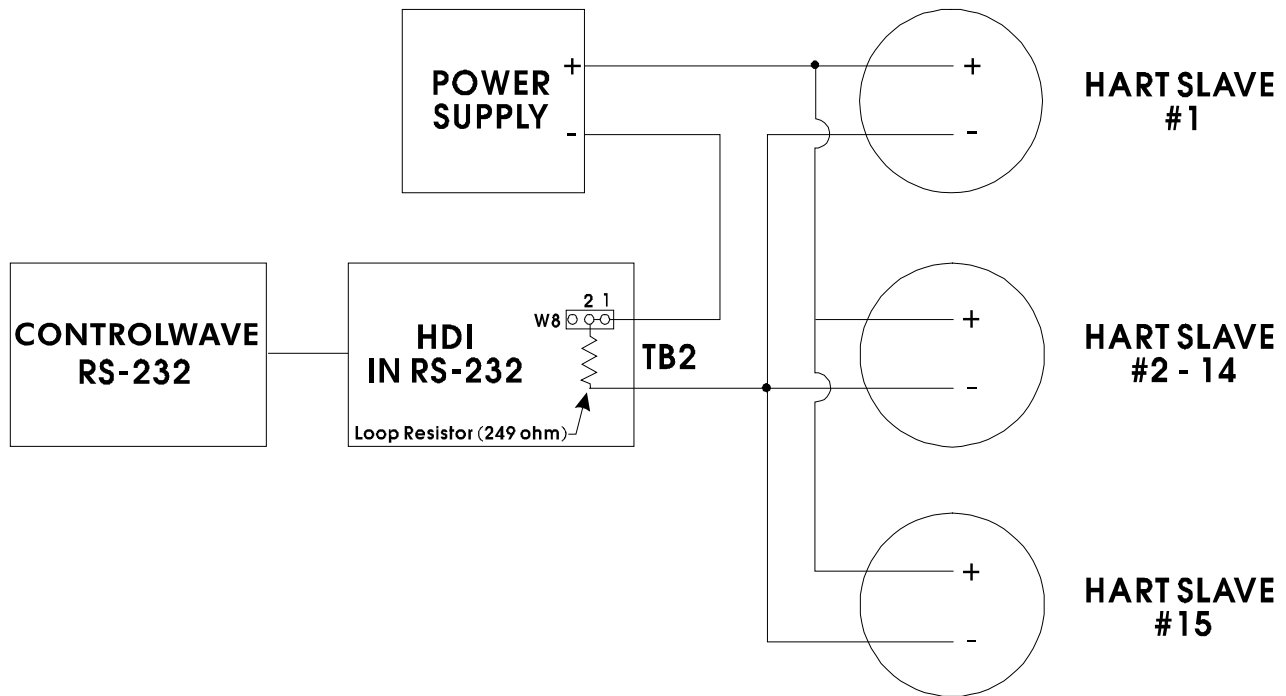
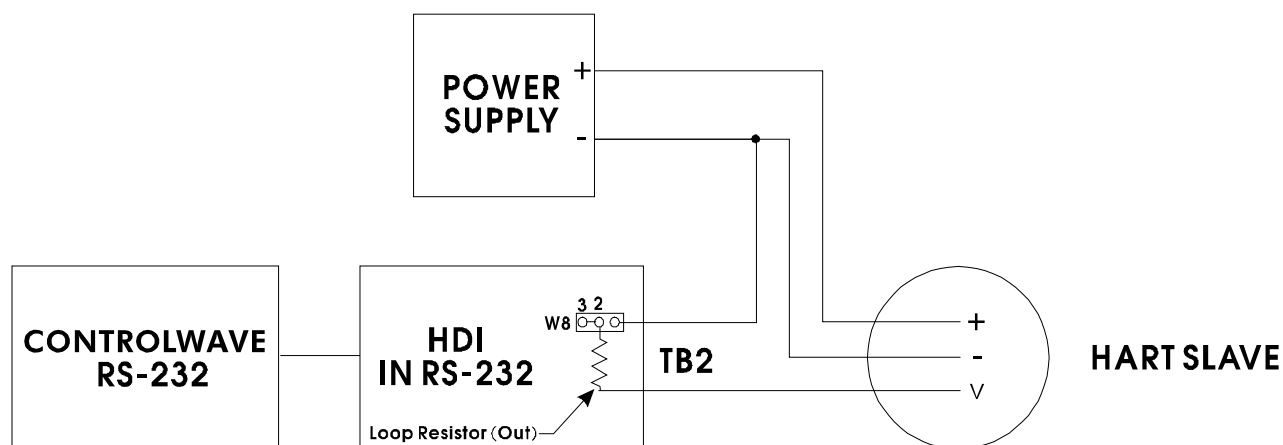

Figure 9. HART(Transmitters with 4-20 mA Current Source Connected to ControlWave using an HDI in RS-232 Mode
Figure 10. HART Transmitters (with +12 to +45 VDC Voltage Source Connected to ControlWave Using an HDI in RS-232 Mode)
2. Connect the HDI to the HART remote devices as shown in *Figure 9* (for 4-20mA current sourced transmitters) or to a single HART voltage output slave device as shown in *Figure 10*.